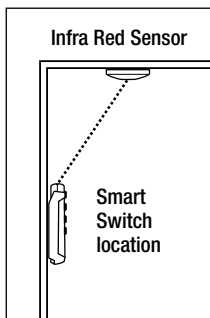

Fig. 17
1. The Sensor must be mounted on the ceiling, nearest the wall on which the Smart Switch is to be mounted as per Fig. 17. Do not mount the Sensor on the far side of the Tastic from the Smart Switch. This may result in the infrared heat from the lamps affecting the signal from the Smart Switch.